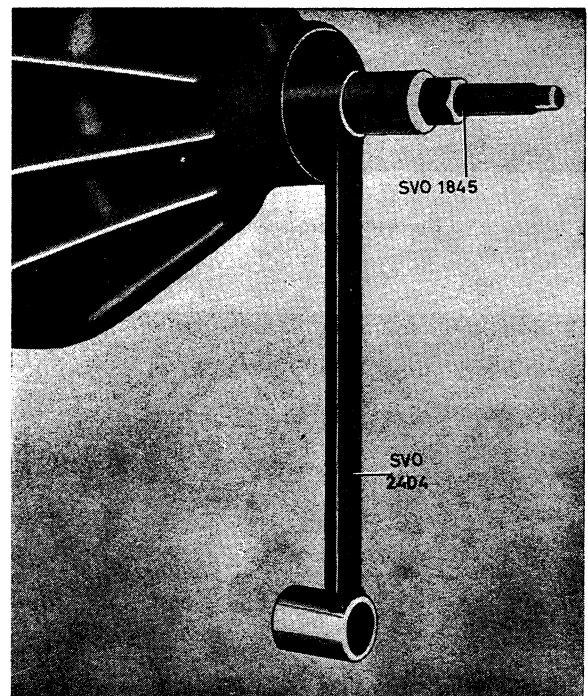

Fig. 4-155. Fitting pinion
5. Insert the pinion in the casing and fit on three 0.75 mm (0.03") thick shims and the front pinion bearing. Fit tool SVO 2404 and press tool SVO 1845 on the front end of the pinion and pull in until it presses the pinion forwards so that it the pinion, see Fig. 4-155. Use the nut tightener does not strike the bearing positions.